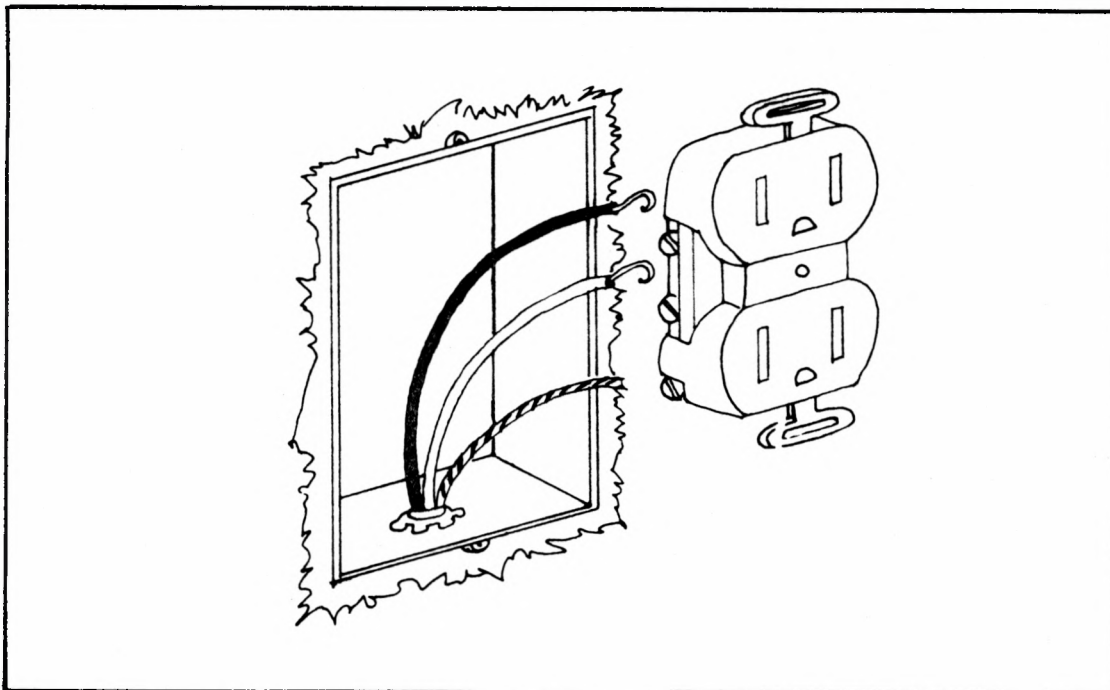

FIG. 5-14 WALL RECEPTACLE WITH GROUNDWIRE
- f. Newer receptacles are the three-wire grounded type. If there is a grounding wire in the electrical box, (see Figure 5-14) connect it to the equipment ground screw on the receptacle. If there is no grounding wire in the electrical box, connect a wire to the grounding screw on the receptacle and run it to the nearest metallic cold water pipe.